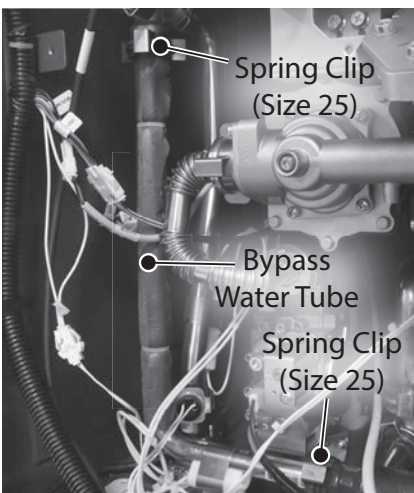

Figure 210 - Remove spring clips from bypass water tube
- 16** Locate the bypass water tube connected to the bypass valve. Locate and remove the two (2) spring clips (size 25) securing the tube to the bypass valve and the mixing tee as shown in Figure 210.